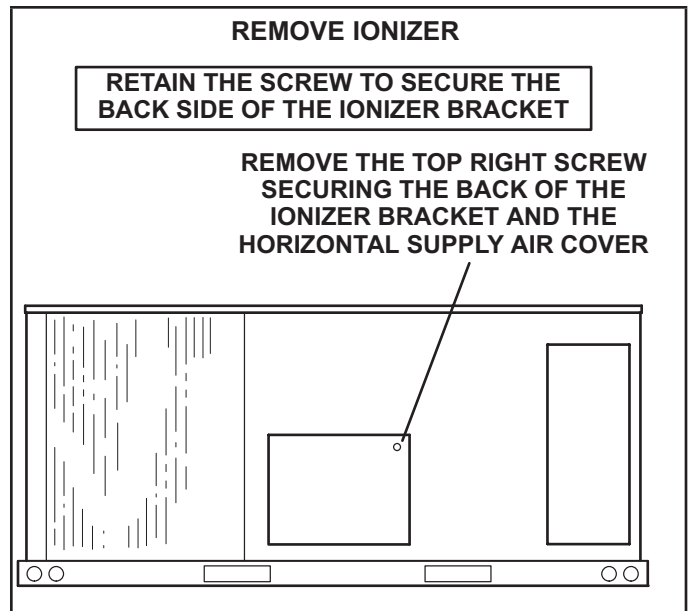

FIGURE 25
- 1 - On the back side of the unit, remove the screw securing the back of the ionizer bracket. See FIGURE 25. Retain the screw to secure the back side of the ionizer bracket.